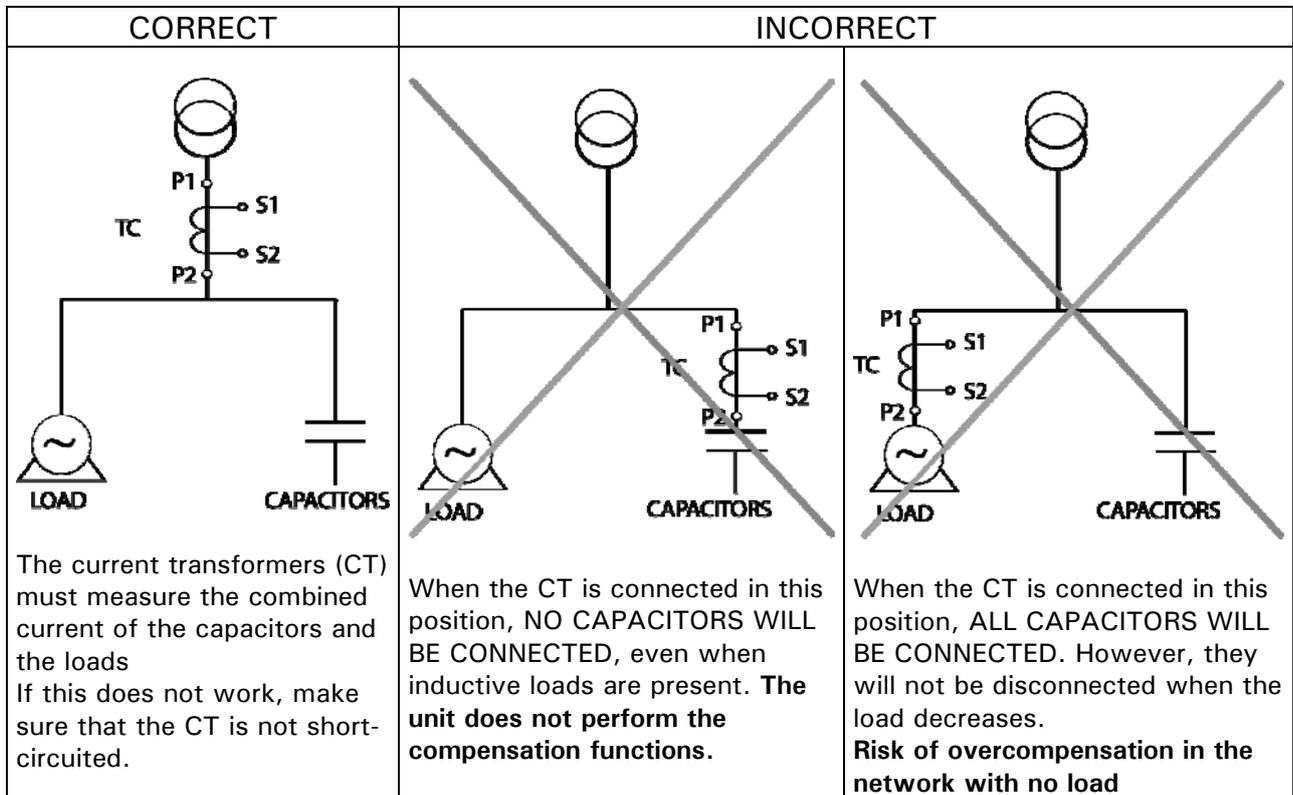

Fig. 4.1.- Location of the current transformer
The current transformer (CT) must be installed on the distribution panel where all of the load currents circulate and where the current of the capacitors will be compensated (see Fig. 4.1)